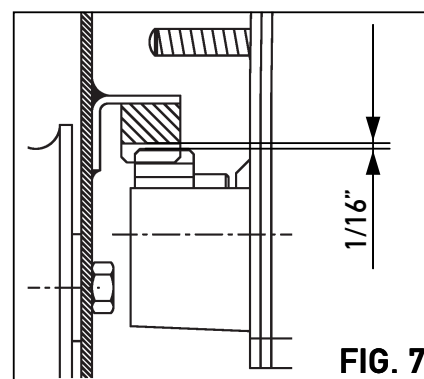

FIG. 7
10. Lower the operator using nuts so that the play between rack and pinion is between 1 and 2 mm (1/16") throughout the whole length of the gate (Fig. 7).